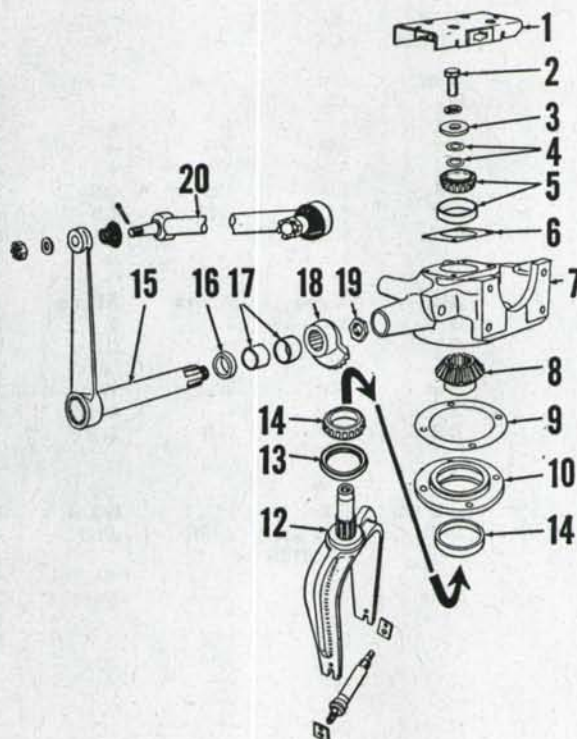
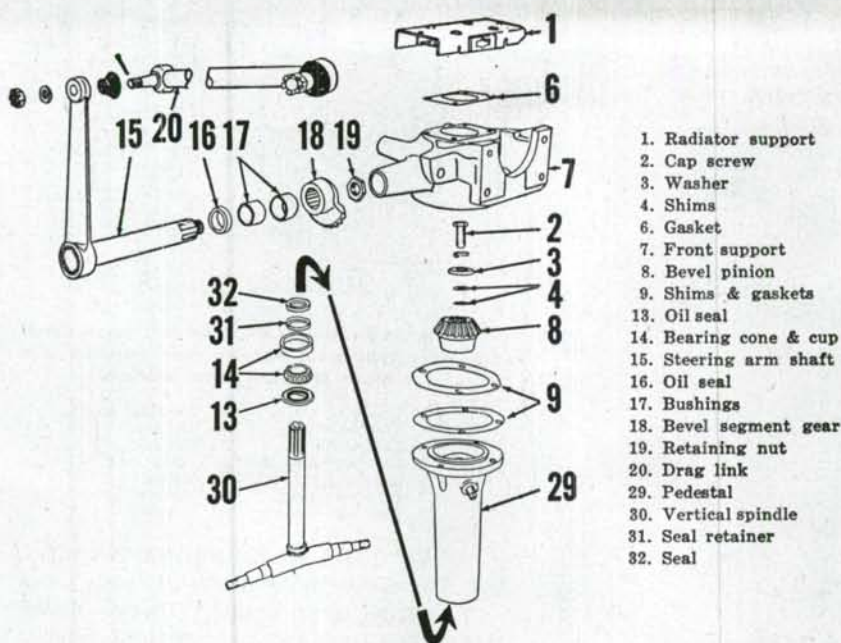
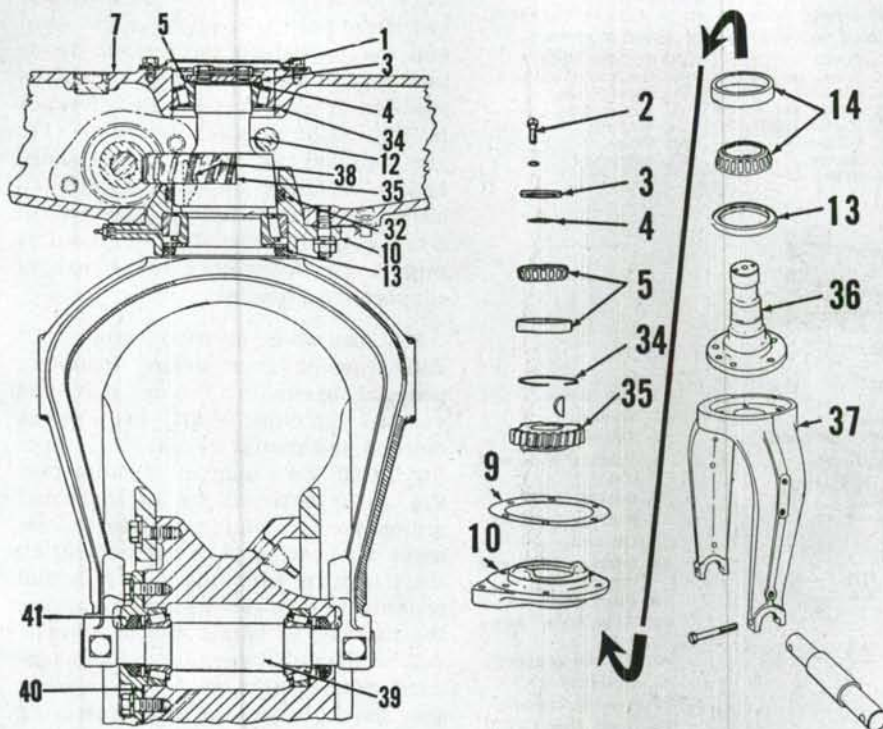
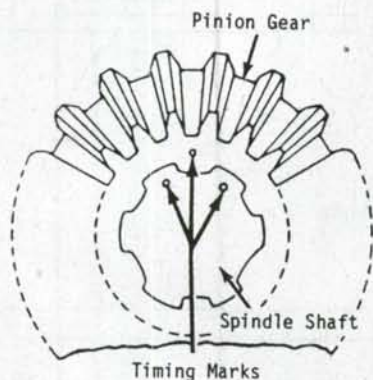

Fig. AC1—Models C and CA single wheel tricycle version front support and front steering gear assembly.
Fig. AC3—Models C and CA dual wheel tricycle version front support, pedestal, and front steering gear assembly.
Fig. AC4—Models RC and WC single wheel tricycle version front support and main steering gear assembly. WD models prior to serial WD 25129 are similar.
Fig. AC10—Correct position of pinion gear on vertical shaft is indicated by punch marks.
1. C-CA SINGLE FRONT WHEEL. To adjust vertical spindle bearings, vary the shims (4—Fig. AC1), located between top of shaft and bearing cone. Radiator must be removed to obtain access to shims.
1B. C-CA DUAL FRONT WHEELS. To adjust vertical spindle bearings, vary the shims (4—Fig. AC3) under cap screw (2) at top of shaft. To gain access to shims, remove the pedestal unit from the front support.
2. RC-WC-WD-WD45 SINGLE FRONT WHEEL. On RC-WC, and WD models prior serial WD25129, the wheel fork and vertical spindle are integral as shown in Fig. AC4. On later WD, after serial WD25128, and WD45, the wheel fork is flange bolted to the vertical spindle as shown in Fig. AC5.
Front wheel bearings are adjusted by varying the number of shims (40—Fig. AC4) located between the bearing retainer and wheel hub.
To disassemble pedestal and front gear unit, remove hood and radiator, and with tractor supported under torque tube, remove front wheel and horizontal spindle assembly from fork. Remove cap screw (2—Fig. AC1), washer (3), and shims (4) from top of vertical spindle shaft (12). Remove cap screws retaining bearing retainer (10) to front support (7), and bump shaft down through upper bearing cone and front support. Withdraw shaft, gear and bearing retainer assembly as a unit from bottom of front support. The need and the procedure for further disassembly will be determined by an inspection of the parts and by reference to Fig. AC1. Presized bushings (17) are supplied for steering arm shaft, and if carefully installed require no sizing after installation.
3A. Assemble retainer, oil seal, lower bearing, bevel pinion gear and vertical shaft as a unit and install in front support after installing steering arm shaft and segment gear. Vary the number of shims (9) between retainer and front support to provide .002 backlash between bevel pinion and bevel segment gears. Alternate shims with gaskets to prevent oil leaks. Pinion gear and top of vertical shaft are punch marked and should be assembled as in Fig. AC10. Pinion gear and segment gear should be meshed so that steering arm is in position shown in Fig. AC11 when front wheel is in straight-ahead, trailing (caster) position and main steering gear is in mid-position. Adjust vertical shaft bearings by adding or removing shims (4—Fig. AC1) between top of shaft and bearing cone retaining washer.
3C. C-CA DUAL FRONT WHEELS. To disassemble pedestal and front steering gear, support tractor under torque tube and remove front wheels. Remove cap screws retaining pedestal (29—Fig. AC3) to front support (7) and remove pedestal. Remove cap screw (2), washer (3) and shims from top of vertical spindle shaft (30) and pull pinion gear (8) off shaft. Withdraw shaft, bearing cone and oil seal (13) from bottom of housing. The need and the procedure for further disassembly will be determined by an inspection of the parts and by reference to Fig. AC3. Presized bushings (17) are supplied for steering arm shaft, and if carefully installed require no sizing after installation. Removal of front support from tractor requires removing radiator core and detaching support from engine.
3D. Assemble steering arm shaft and segment gear before installing pedestal assembly. Pinion gear and vertical spindle shaft are punch marked and should be assembled as in Fig. AC10. Vary number of shims (4—Fig. AC3) between top of shaft and pinion gear retaining washer to remove all bearing play but permitting shaft to turn without binding. Install pedestal unit in front support varying the number of shims (9) to provide .002 backlash between pinion and segment gear. Pinion gear and segment gear should be meshed so that steering arm is in position shown in Fig. AC11 when front wheels are in straight-ahead, trailing (caster) position and main steering gear is in mid-position.
4. RC - WC - WD - WD45 WORM-SHAFT. To disassemble worm shaft, bump pin out of steering shaft universal joint and worm shaft and slide universal joint back. Remove steering shaft bearing bracket (47) and shims
4A. RC-WC-WD-WD45 VERTICAL SPINDLE. On single wheel models, the vertical spindle is supported in two roller bearings; on one such bearing in the dual wheel models. Refer to Figs. AC4, AC5, AC7, and AC8.
On single wheel models, Figs. AC4 & AC5, first remove retainer plate (3—Figs. AC4 & AC5) and shims (4) from top of vertical shaft. Remove stud nuts which hold retainer (10) to bottom of front support. Remove vertical spindle, bearings, sector and bearing retainer as an assembly from front support.
4B. When reassembling, adjust vertical spindle bearings of dual wheel models by varying number of shims (4—Fig. AC3). On single (fork mounted) wheel types, adjust bearings by varying the number of shims (4—Figs. AC4 & AC5).
On single wheel type the spindle bearings are adjusted by varying the number of shims located between bearing retainer and wheel hub. Shims are shown at (40—Fig. AC4).